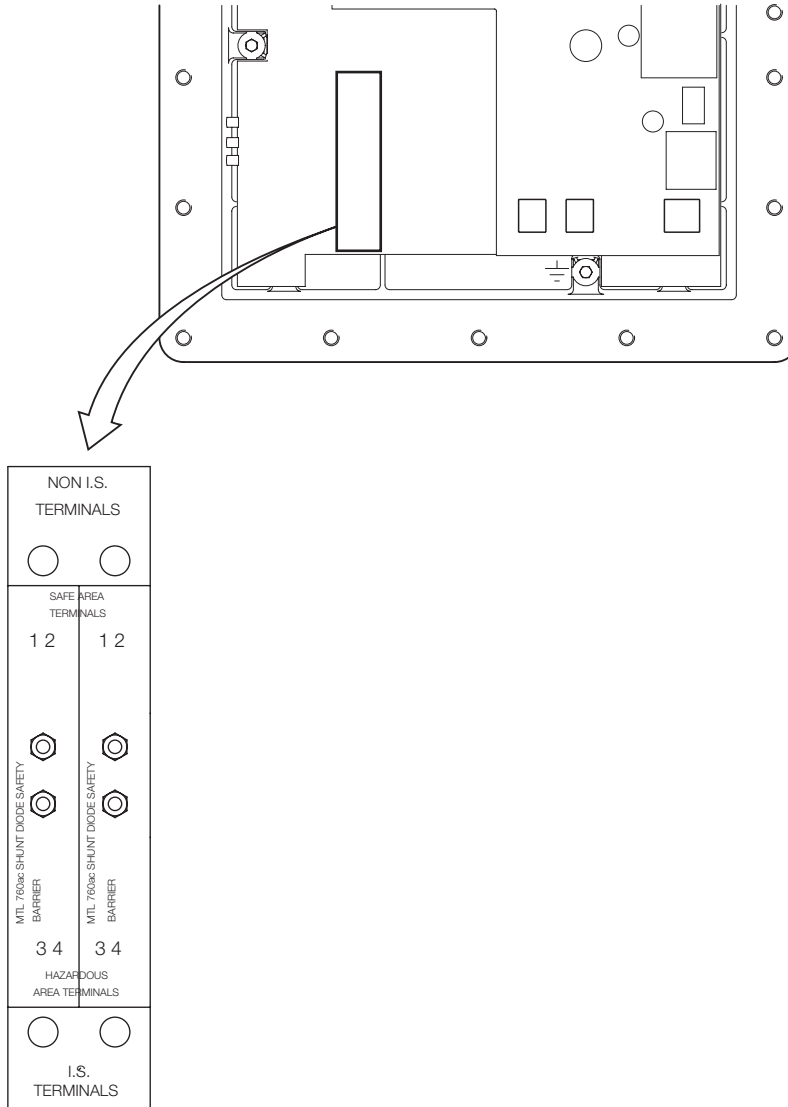

Fig. 4.2 Zener Barrier Identification Label
4.3 Zener Barriers – Fig. 4.2
The two zener barriers fitted to the unit are identified by a label positioned under the barrier – see Fig. 4.2.